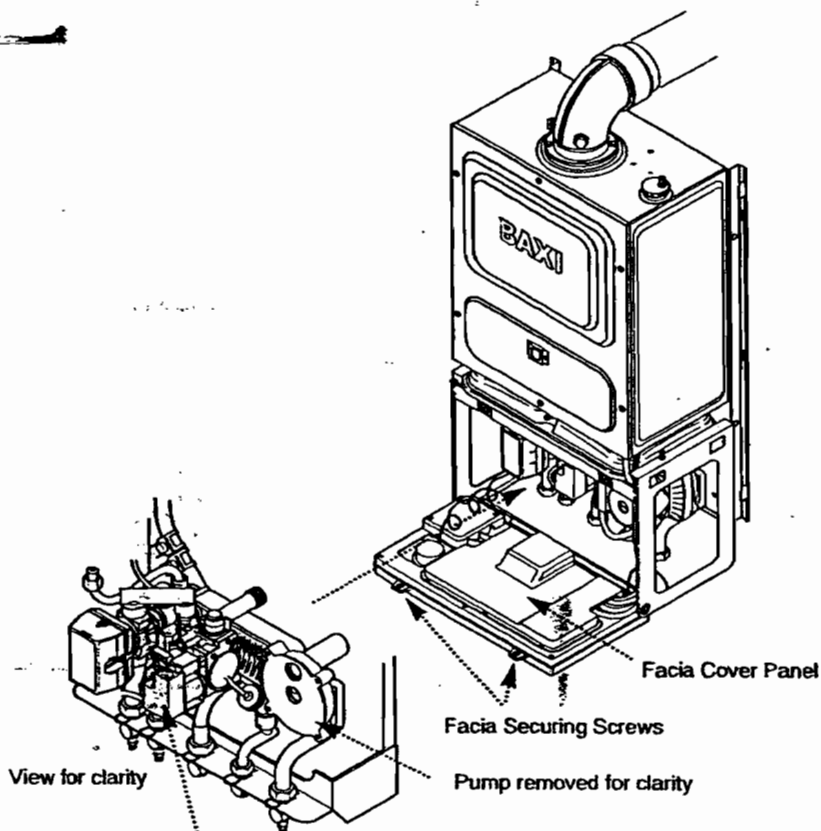

Fig. 54
13.9 Gas Valve (Figs. 54 & 55)
1. Release the NAC securing screw and remove the plug (Fig. 54).
13.10 Spark Generator (Fig. 54)